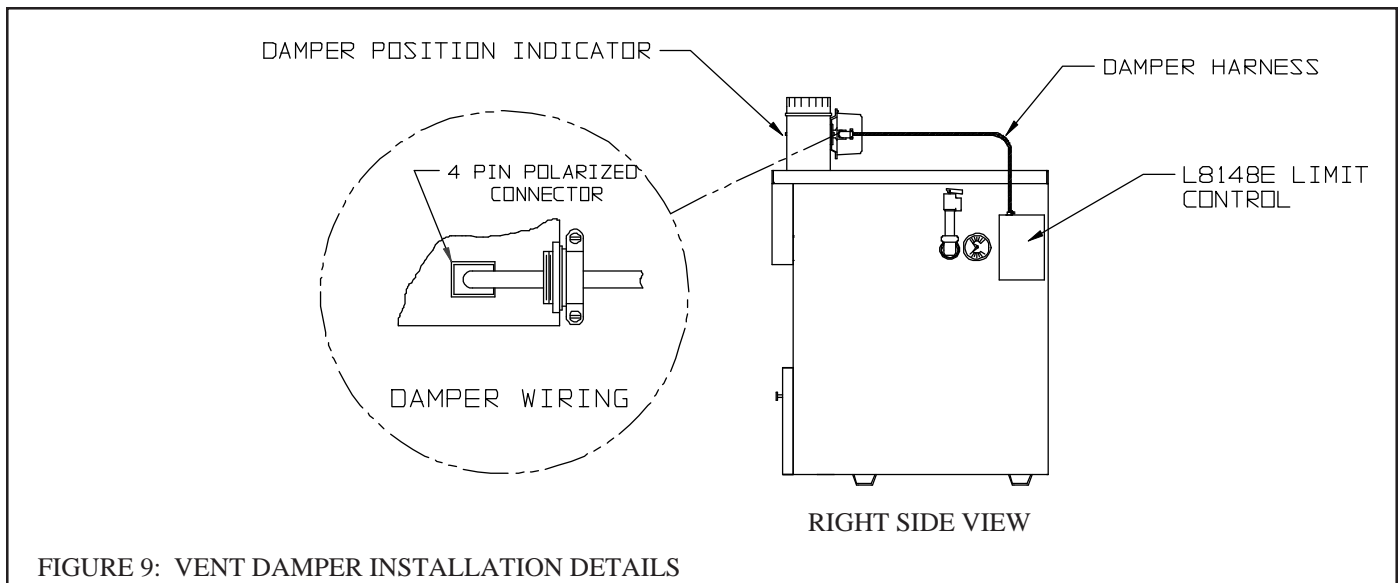

FIGURE 9: VENT DAMPER INSTALLATION DETAILS
- 10) The vertical section of vent pipe coming off the boiler should be as tall as possible, while still maintaining the proper clearance from the horizontal vent connector to combustibles and the proper pitch called for in (9) above.
- 14) Vent damper installation is mandatory on all AWI/TWI boiler models due to federally mandated efficiency regulations. Install vent damper (see Figure 9) as follows: